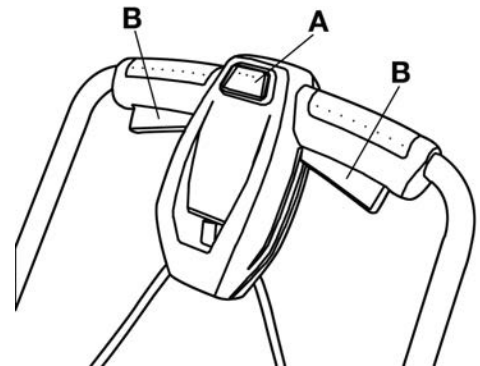

FIGURE 20
1. Press and hold the starting safety switch button (A) Fig.20.
2. To power on, pull the trigger(s) (B).